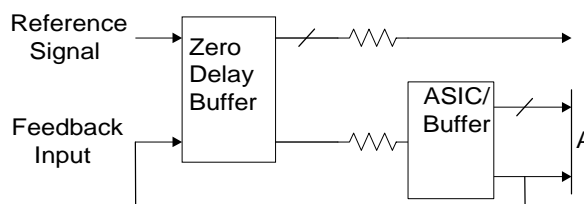

Figure 2. Six Output Buffers in the Feedback Path
Referring to *Figure 2*, if the traces between the ASIC/buffer and the destination of the clock signal(s) (A) are equal in length to the trace between the buffer and the FBIN pin, the signals at the destination(s) device will be driven HIGH at the same time the Reference clock provided to the ZDB goes HIGH. Synchronizing the other outputs of the ZDB to the outputs form the ASIC/Buffer is more complex however, as any propagation delay in the ASIC/Buffer must be accounted for.